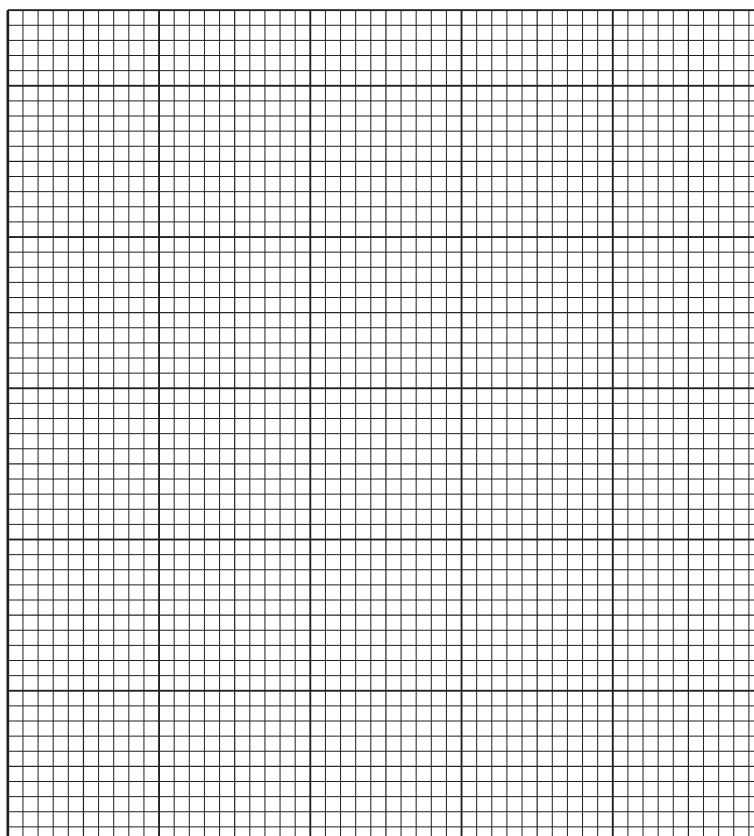

Fig. 1.3
- (i) Plot a graph of the data in Table 1.3 on the grid in Fig. 1.3.
(ii) Draw **two** lines on your graph in Fig. 1.3 to show the concentration of inhibitor that causes 24% inhibition of sucrase. [1]